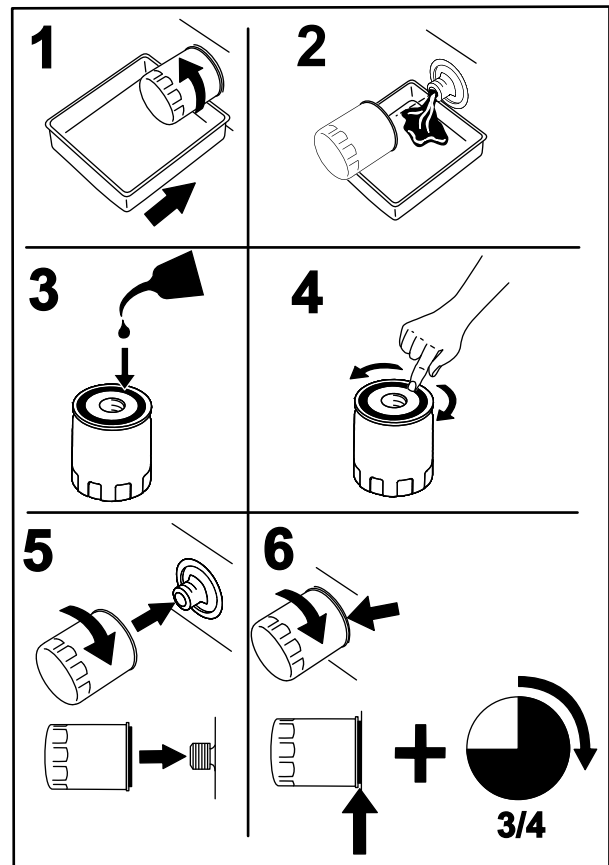

Figure 52
2. Change the engine oil filter (Figure 52).